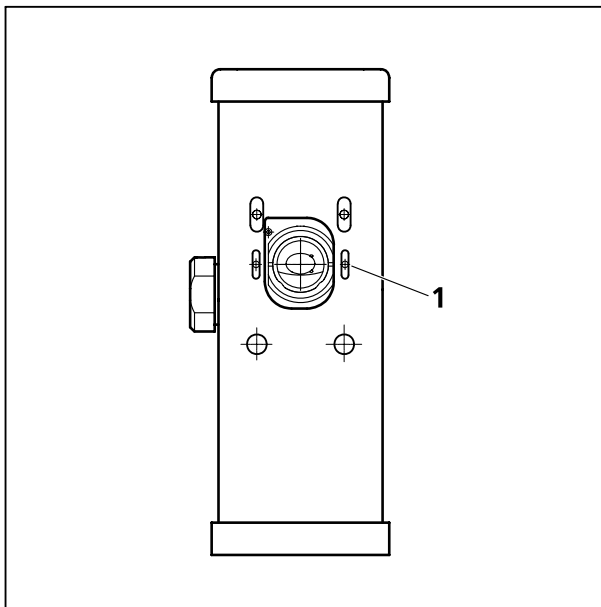

Fig. 1-24 Shutter opening on the periscope. Also applies for the large periscope for upright microscopes.
- Open the shutter in the periscope using an Allen key (Fig. 1-24/1) and slide in the tube completely, this will hold the shutter open.